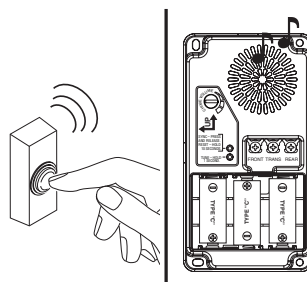

Figure 9
- Press and release the push button to verify the chime and push button are synced (see Figure 9).